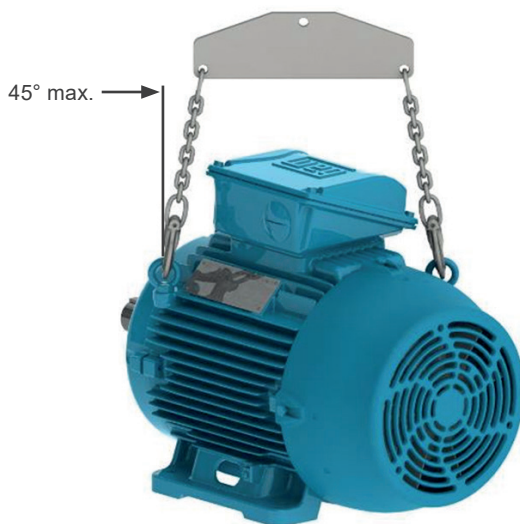

Figure 4.4: Maximum resultant angle for motors with two or more lifting eyebolts
- For motors with vertical lifting eyebolts, as shown in Figure 4.4 on page 15, the maximum allowed lifting angle should not exceed 45° in relation to the vertical axis. We recommend using a spreader beam for maintaining the lifting elements (chain or rope) in the vertical position and thus preventing damage to the motor surface.